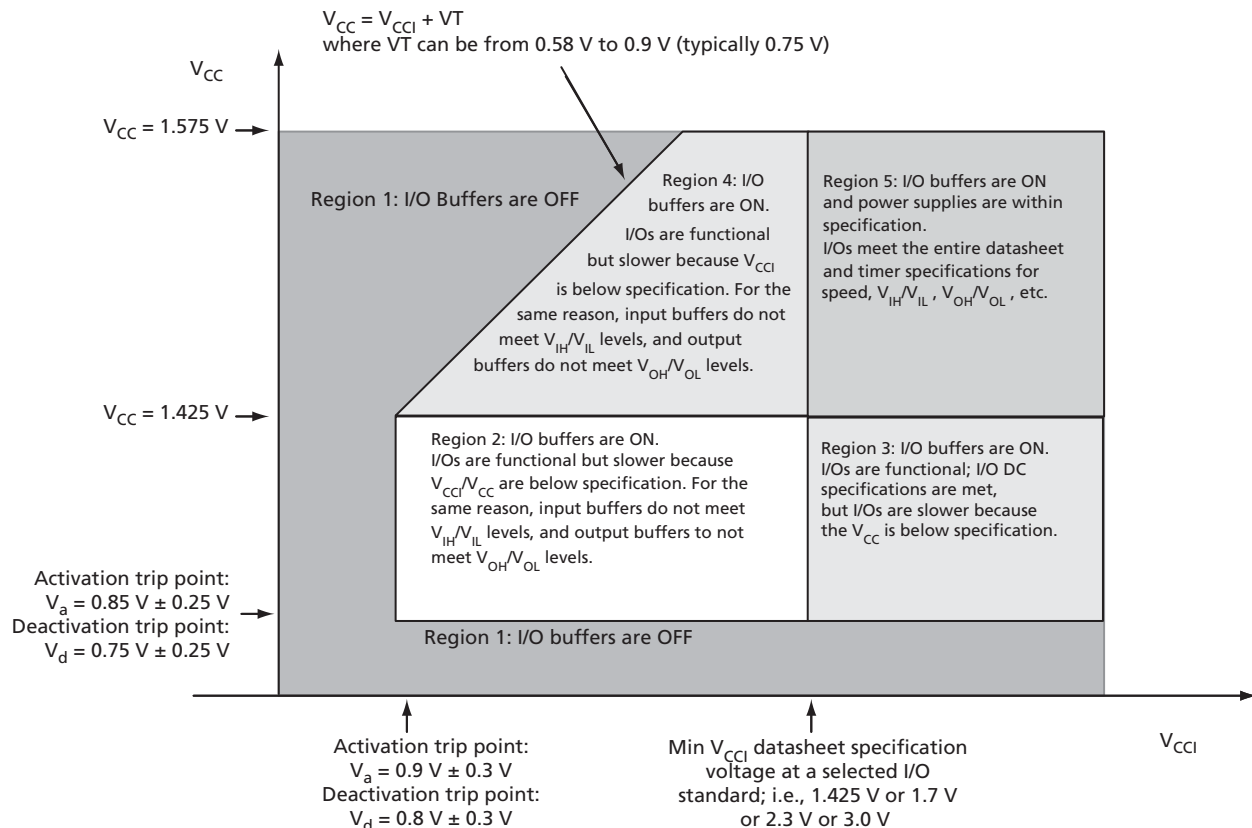
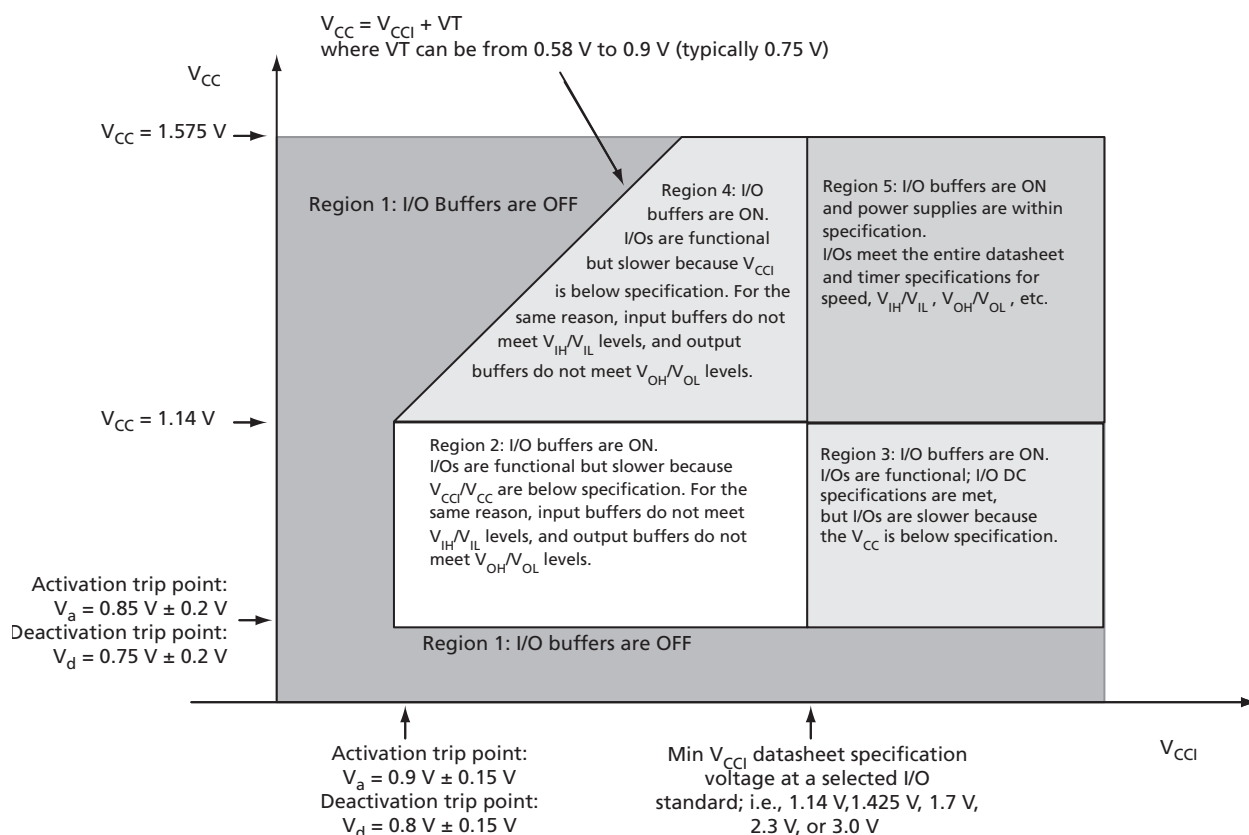

Figure 2-1 • V5 Devices – I/O State as a Function of VCCI and VCC Voltage Levels
Figure 2-2 • V2 Devices – I/O State as a Function of VCCI and VCC Voltage Levels
Sophisticated power-up management circuitry is designed into every IGLOO nano device. These circuits ensure easy transition from the powered-off state to the powered-up state of the device. The many different supplies can power up in any sequence with minimized current spikes or surges. In addition, the I/O will be in a known state through the power-up sequence. The basic principle is shown in Figure 2-1 on page 2-4.
1. VCC and VCCI are above the minimum specified trip points (Figure 2-1 and Figure 2-2 on page 2-5).
Actel recommends using monotonic power supplies or voltage regulators to ensure proper power-up behavior. Power ramp-up should be monotonic at least until VCC and VCCPLX exceed brownout activation levels (see Figure 2-1 and Figure 2-2 on page 2-5 for more details).